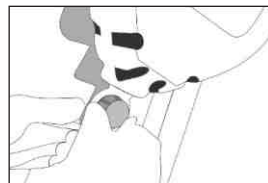

Fig. 3
- 4) Put the black screw in the anchor ring of the fall arrester and screw it back (Fig. 3).